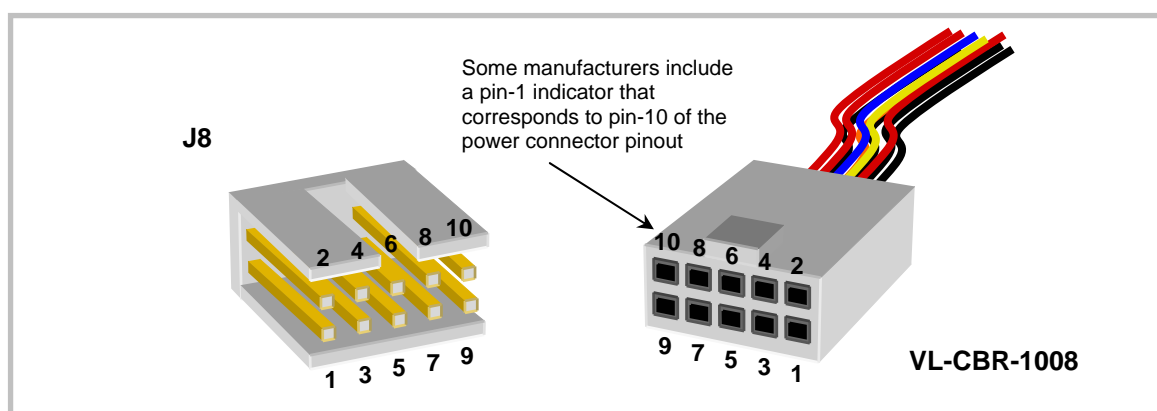

Figure 11. J8 and VL-CBR-1008 Pin Numbering
**Warning!** To prevent severe and possibly irreparable damage to the system, it is critical that the power connectors are wired correctly. Make sure to use both +5 VDC pins and all ground pins to prevent excess voltage drop. The power connector is not fuse or diode protected. Proper polarity must be followed or damage will occur. Some manufacturers include a pin-1 indicator on the crimp housing that corresponds to pin-10 of the pinout shown in Figure 11.
Figure 11 shows the VersaLogic standard pin numbering for this type of 10-pin power connector and the corresponding mating connector.